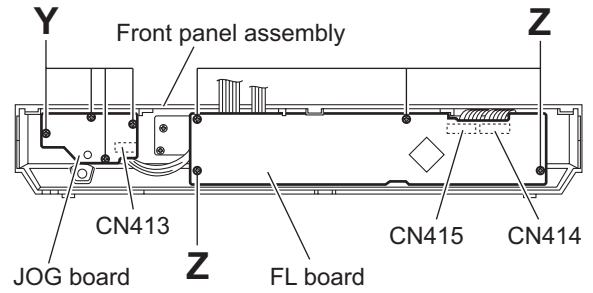

Fig.22
(See Figs. 22 and 23)
- From the inside of the front panel assembly, remove the four screws **Y** attaching the JOG board. (See Fig.22.)
- Take out the Jog board while lifting the JOG board from the front panel assembly little by little. (See Fig.22.)
- From the forward side of the JOG board, disconnect the wire from the connector CN413. (See Fig.22)
(See Fig. 22)
- From the inside of the front panel assembly, disconnect the wire from the connector CN413 on the JOG board. (See Fig.22.)